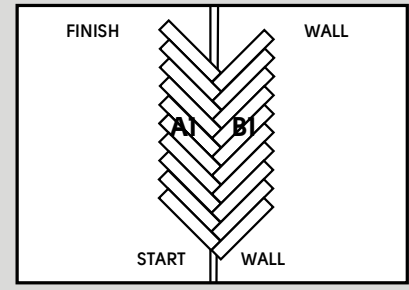

Fig. 6
7. Continue installing planks without cutting them, working in opposite directions. Verify that the installed planks are straight on the lines. (Fig. 6). Carefully tap the plank together flat on the floor to engage the 5G® locking system.